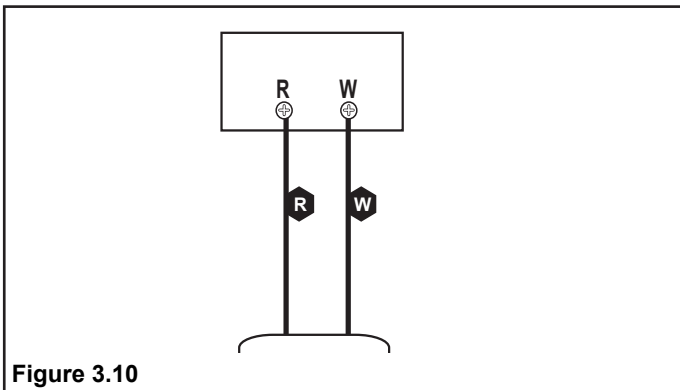

Figure 3.10
5. Connect your thermostat wire to the W and R terminals. See Figure 3.10.